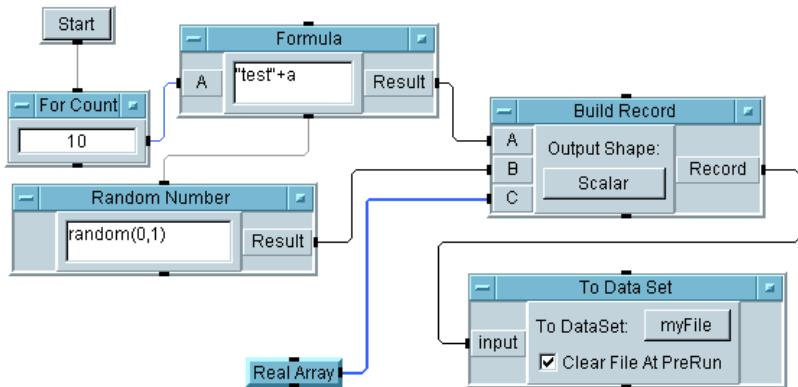

Figure 5-14. Storing an Array of Records in a DataSet
8. Run the program. It should put an array of ten records into the DataSet called `myFile`, as shown in Figure 5-14.